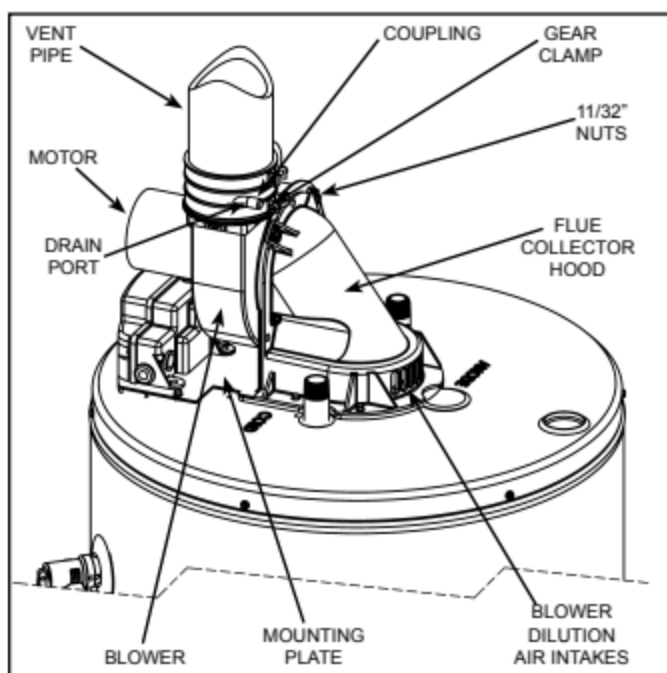

Figure 50.
Inspect the top of the heater and around the ventilation openings of the blower motor and the rear blower dilution air intakes for any lint and dust that may have accumulated. Depending on the location of the heater, significant quantities of lint may accumulate. The lint may obstruct the free flow of air to the motor, and cause the motor and blower to run hotter than normal (see Figure 50).
4. Disconnect the vent piping from the top of the blower. Loosen the lower gear clamp that holds the rubber coupling to the blower (see Figure 50).
5. Remove and retain the (4) 11/32" nuts located on the back of the blower with the nutdriver (see Figure 43 & Figure 50).
10. With all parts cleaned and the blower wheel turning freely, reinstall the blower to the mounting plate aligning the (4) studs and pushing tight against the mounting plate.
11. Reinstall the (4) 11/32" nuts and tighten securely. All (4) nuts must be in place and secure to safely operate the blower.